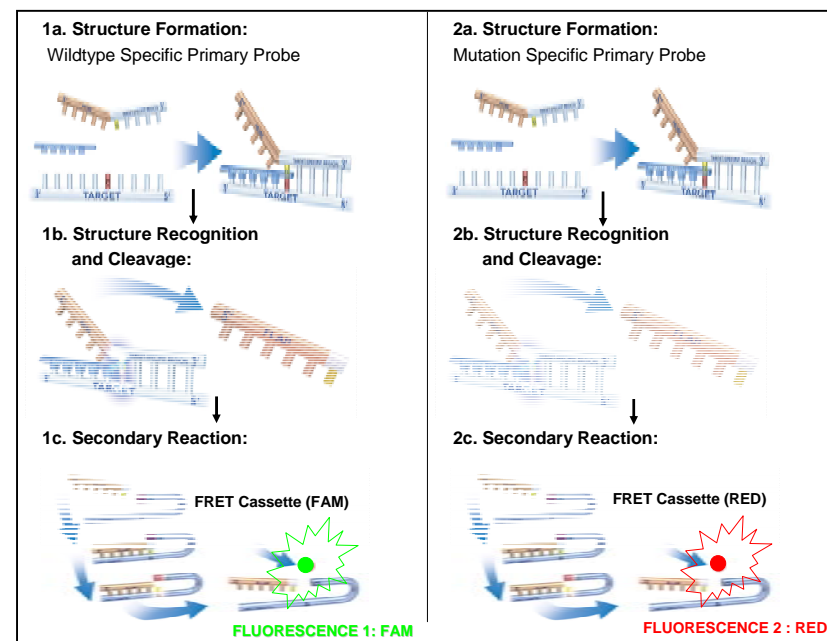

Figure 1: Invader® Signal Generation Phase
The Invader® MTHFR 1298 test utilizes the Invader Plus® chemistry with DNA isolated from human whole blood, for the detection of the targeted sequence polymorphism. Specifically, the Invader Plus® chemistry utilizes a single-tube, two phase reaction, including target amplification and signal generation (mediated by Invader® chemistry). Invader Plus® reaction mixes are assembled by combining the MTHFR 1298 Oligo Mix, Universal Enzyme Mix, and Universal Buffer. In a 96-well plate, reaction mix is combined with purified genomic DNA samples, as well as four (4) controls included with the test. The No DNA Control is used by the interpretive software to set the "noise" component of the run for "signal-to-noise" calculations. The genotype-specific controls (WT, HET, MUT) ensure reagents were assembled correctly and perform according to the specifications. The 96-well plate is transferred to an appropriately programmed thermal cycler for target amplification and signal generation. In the target amplification phase of the reaction, amplification is carried out using "two-step" cycling conditions (i.e., denaturation & annealing/extension). Following amplification, Taq polymerase is inactivated by a 10 minute incubation at 99°C, after which the thermal cycler proceeds to 63°C to initiate the signal generation (Invader®) phase of the reaction (see Figure 1).
During the signal generation phase, a discriminatory Primary Probe transiently hybridizes to the amplified target sequence along with an Invader[®] oligonucleotide, to form an overlapping structure. The 5'-end of the Primary Probe includes a 5'-flap that does not hybridize to the target DNA. The 3'-nucleotide of the bound Invader[®] oligonucleotide overlaps the Primary Probe, and does not hybridize to the target DNA. The Cleavase[®] enzyme recognizes this overlapping structure and cleaves off the unpaired 5'-flap of the Primary Probe, releasing it as a target-specific product. The Primary Probe is designed to have a melting temperature aligned with the Invader[®] reaction temperature so that under the isothermal reaction conditions (~63°C) the Primary Probes cycle on and off the target DNA. This allows for multiple rounds of Primary Probe cleavage for each DNA target resulting in an accumulation of the number of released 5'-flaps. The initial reaction, the released 5'-flap transiently hybridizes with a corresponding FRET cassette forming an overlapping structure that is recognized and the fluorophore is cleaved from the FRET cassette by the Cleavase[®] enzyme. The 5'-flap is designed to have a melting temperature aligned with the Invader[®] reaction temperature, so that the 5'-flaps cycle on and off of the corresponding FRET cassettes. This allows for multiple rounds of FRET cassette cleavage for each 5'-flap, and an accumulation of released fluorophore. When the FRET cassette is cleaved, a fluorophore and quencher are separated, generating detectable fluorescence signal. The format uses two different discriminatory Primary Probes, one for the mutant allele and one for the wild type allele (Figure 1). Each Primary Probe is assigned a unique 5'-flap, and distinct FRET cassette, with a spectrally distinct fluorophore. By design, the released 5'-flaps will bind only to their respective FRET cassettes to generate a target-specific signal, linking the wild type allele with one fluorophore (Fluorescence 1: FAM) and the mutant allele with the second fluorophore (Fluorescence 2: RED).